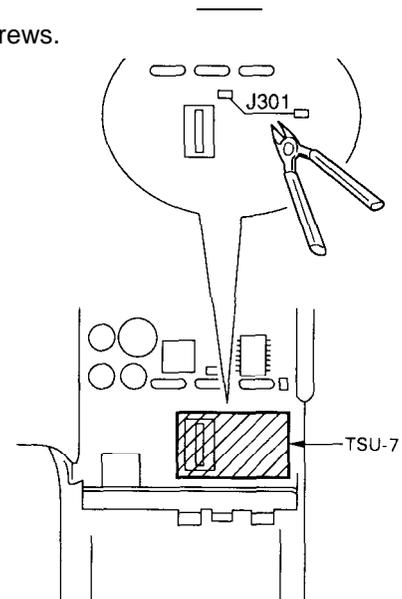

Fig. 4
- 7 Attach the TSU-7 to the transceiver, as shown in fig.4.